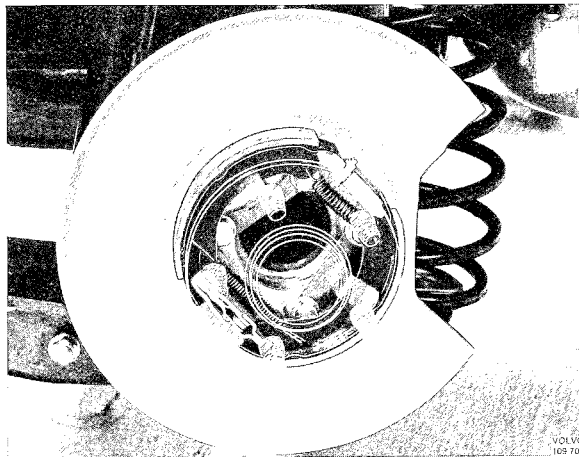

Fig. 5-86. Parking brake installed
10. Install upper return spring and adjustment device (Fig. 5-86).
19. Install upper return spring and adjustment device (Fig. 5-86).